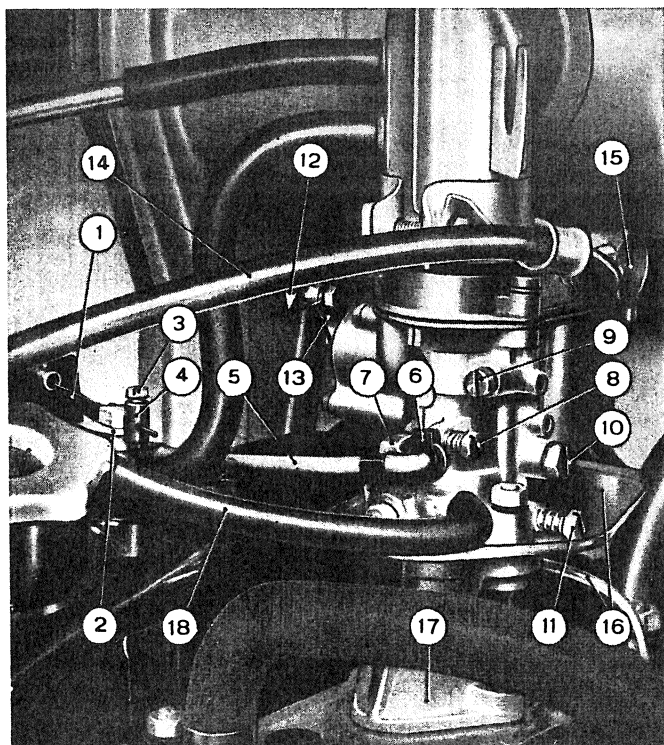

Fig. 155 - Weber 26 IM carburetor in place on engine.
Idling speed may be adjusted by throttle setscrews (8, fig. 155) and mixture setscrew (11).